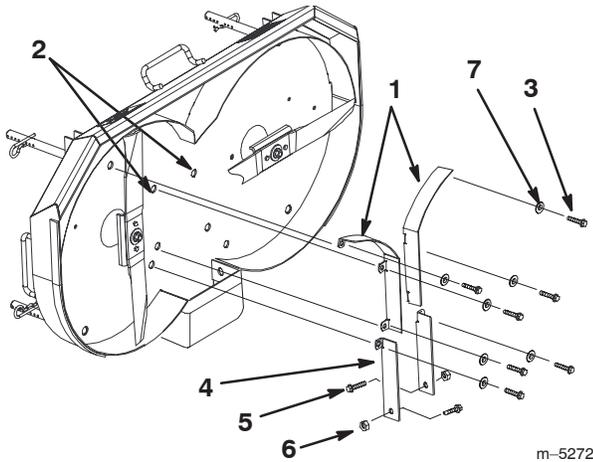

Figure 39
2. Remove screws, washers, left and right bagger baffles locknuts, carriage bolts, and left and right discharge baffles from the mower (Fig. 39).
Important All bagging and discharge baffles must be removed when mulching (Fig. 39).
- Position the left and right front bagger baffles inside the mower and secure with screws into the retainer nuts (Fig. 39).
- Position the left and right rear discharge baffles inside the mower. Secure with screws and washers through the bottom and carriage bolts inside of mower rear discharge. Secure carriage bolts with locknuts (Fig. 39).